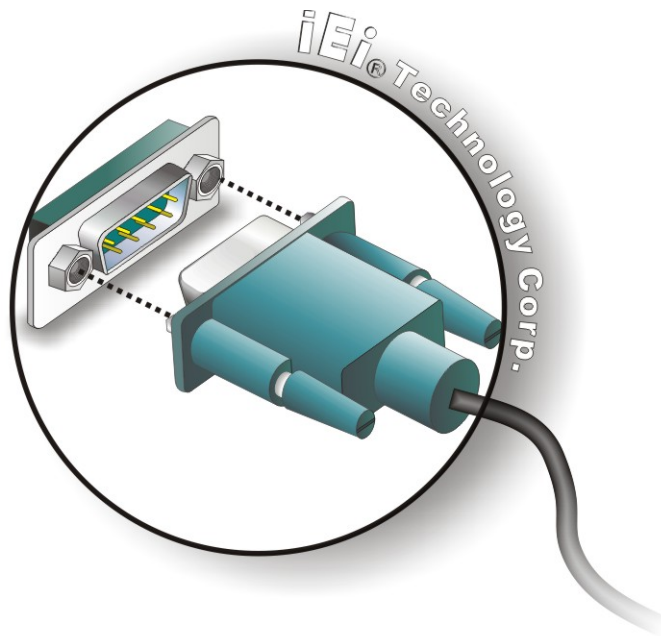

Figure 3-29: Serial Device Connector
Step 2: **Insert the serial connector.** Insert the DB-9 connector of a serial device into the DB-9 connector on the external peripheral interface. See **Figure 3-29**.